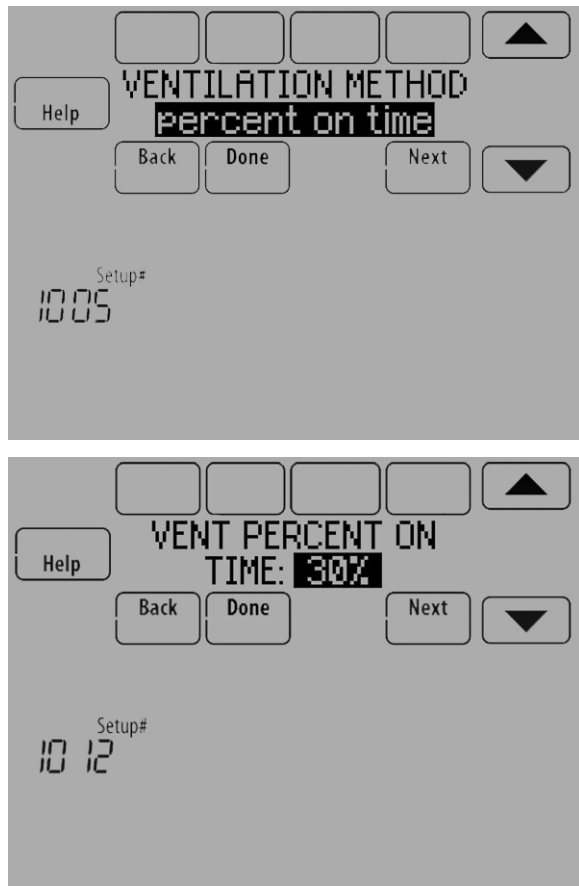

Fig. 164.
8. If Percent On Time was selected for ISU 1005, select the Ventilation Percent on Time. See Fig. 164.